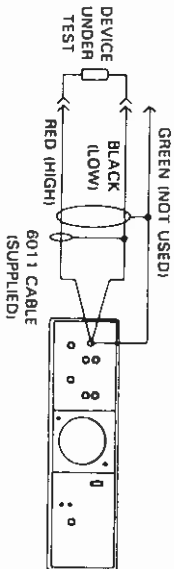
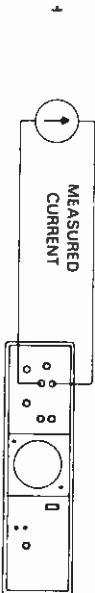

Figure 1. Input Connections for all Except 2A Range
Figure 2. Input Connections for 2A Range
6. Connect the signal to the instrument. Figure 1 shows connections for all functions except for the 2A current range. Figure 2 shows connections for the 2A current range.